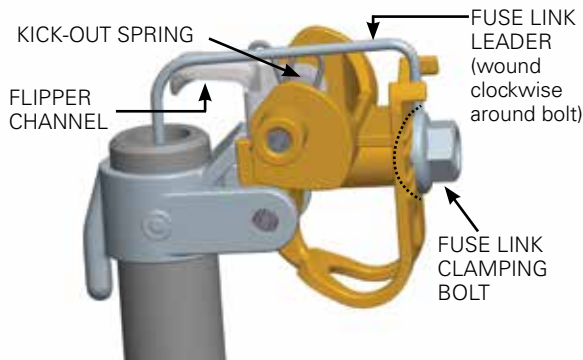

Figure 5. Installation of a fuse link into a fuseholder.
4. Holding the lower end of the fuseholder, rotate the flipper fully about its pivot until it reaches its stop. Hold the flipper in this position and feed the fuse link cable through the flipper channel and feed the cable around the fuse link clamping bolt in a clockwise direction. Make only one turn with the cable. **DO NOT OVERLAP.** This will prevent strand breakage when the clamping nut is tightened (See Figure 5).